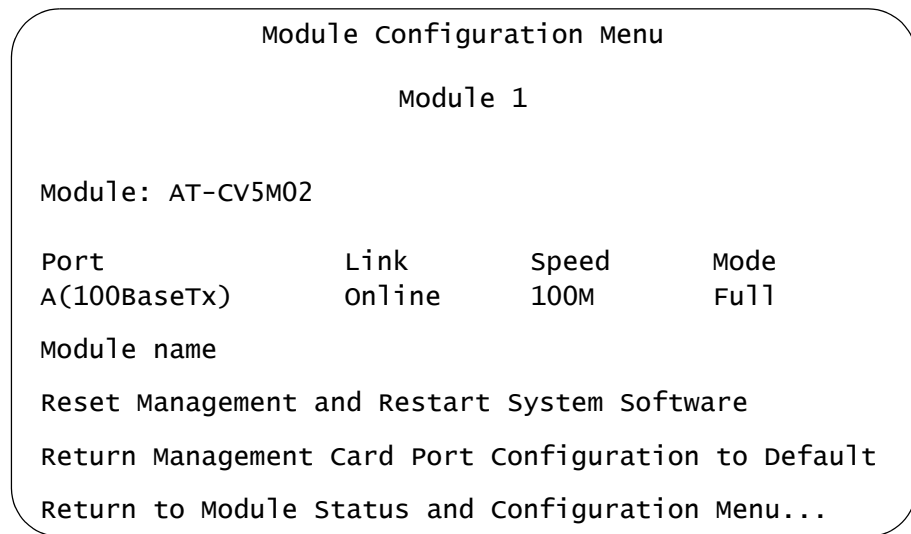

Figure 35. Module Configuration Menu (Management Card)
2. Select the AT-CV5M02 Management Card. If the chassis has two management cards, select the active card. This displays the Module Configuration Menu in Figure 35.